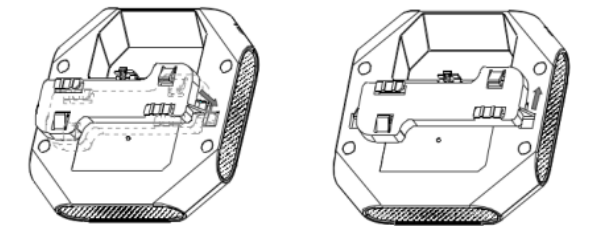

Figure 4: Attaching Ceiling Mounting Bracket
- Place the bracket against the back of the AP, insert by aligning the slot on the backside with the hanging feet on both sides of the bracket (see Figure 4).
- Push the bracket along the direction of the arrow until it locks in the slot (see Figure 4).